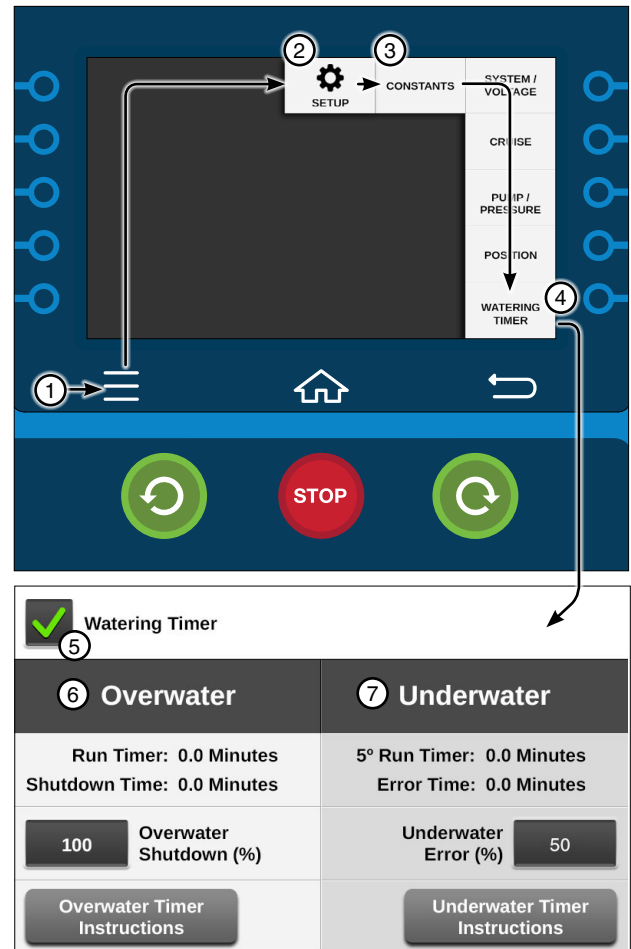

Figure 41-1 1. Menu
1. Push **Menu**, **Setup**, **Constants**, and **Watering Timer** to display the Watering Timer screen. Refer to Figure 41-1.
To view the status of the watering timers, push Menu, Setup, Constants, and Watering Timer to display the Watering Timer screen. Refer to Figure 41-1.